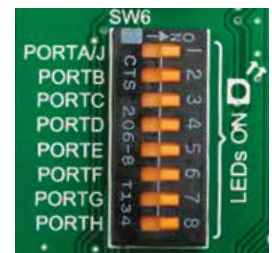

Figure 6-6: SW6.1 through SW6.4 switches are used to enable PORT LEDs
the current value specified by the manufacturer. The current varies from 0.2mA to 20mA, depending on the type of the LED and the manufacturer. The EasyPIC PRO v7 board uses low-current LEDs with typical current consumption of 0.2mA or 0.3mA, depending of VCC voltage selection. Board contains 69 LEDs which can be used for visual indication of the logic state on PORT pins. An active LED indicates that a logic high (1) is present on the pin. In order to enable PORT LEDs, it is necessary to enable the corresponding DIP switch on **SW6 (Figure 6-6)**.